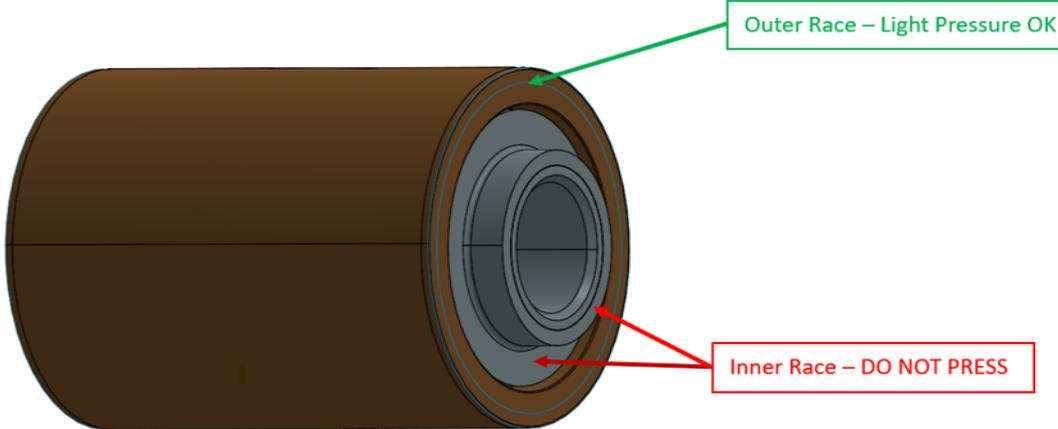

Figure 3: Bearing Components
- Bearing may be pressed into housing using light pressure on the side face of the aluminum outer race only. Do not press on the inner race (steel) components. Reference Figure 3.